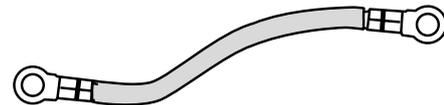

Fig. 12.9
**⚠** Your range is supplied with a ground strap that can be used when connecting to a three wire cord. Consult your electrician before changing the supplied cord kit (**Fig. 12.9**).
A Ground strap is supplied in the conversion pack (**Fig. 12.9**). Fit the Ground strap to the ground and center terminal of the connector block.